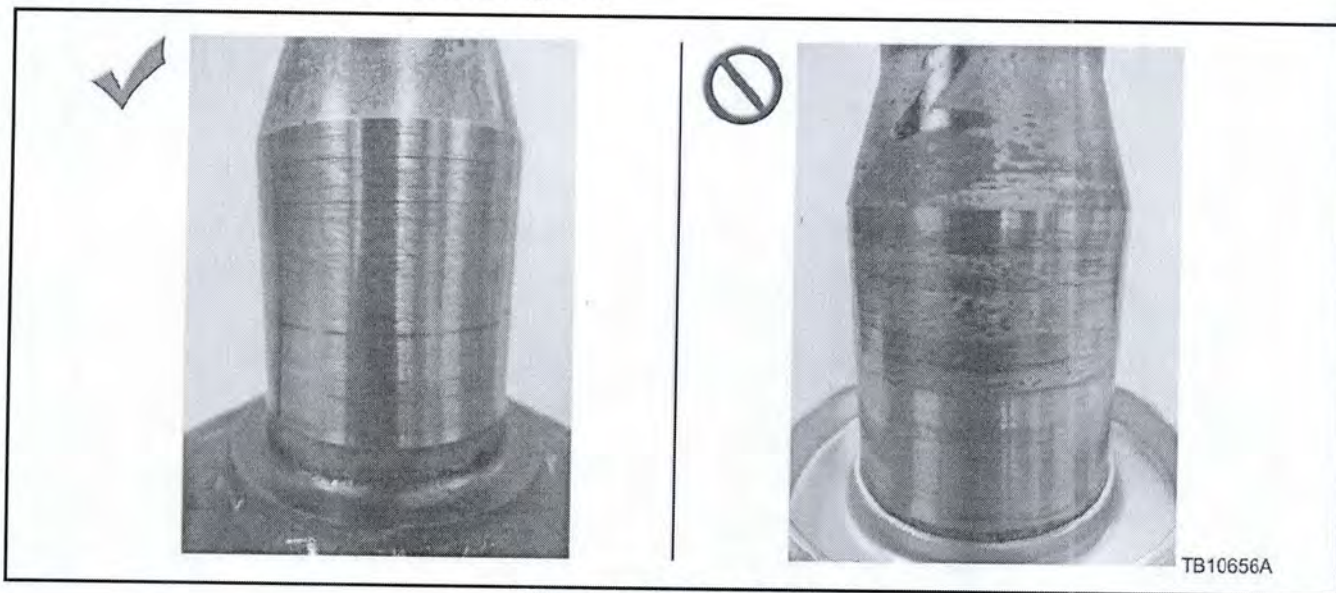

Figure 1 - Article 15-0079
2. Inspect the halfshaft journal surface finish. (Figure 1)
- 2. Inspect the halfshaft journal surface finish. (Figure 1)
- a. If the journal surface does not any have metal transfer from the bushing, the constant velocity (CV) joint can be reused. Use the service kit that contains only the bushing and seal.